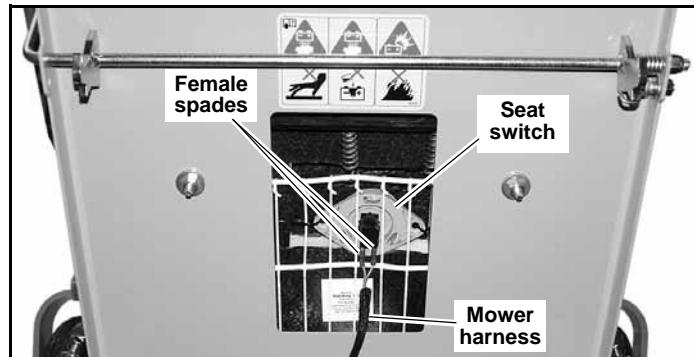

Figure 4-1
3. Raise the seat platform and disconnect the mower harness from the seat switch. Bypass the seat switch by connecting the two mower harness female spades together. Figure 4-1
12. **IMPORTANT:** With the engine off, disconnect the two female spade connectors from each other (from step #3) and reconnect them to the seat switch. This must be completed so that the safety circuit is functioning properly. Figure 4-1